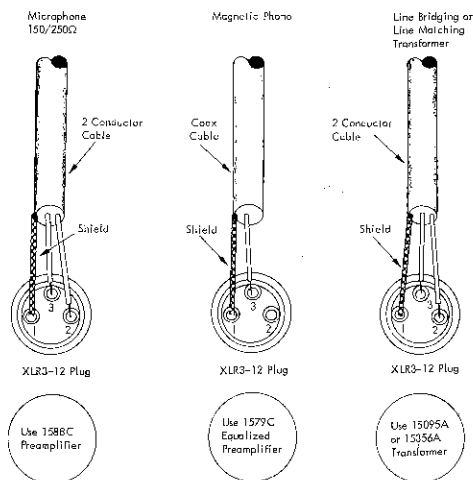
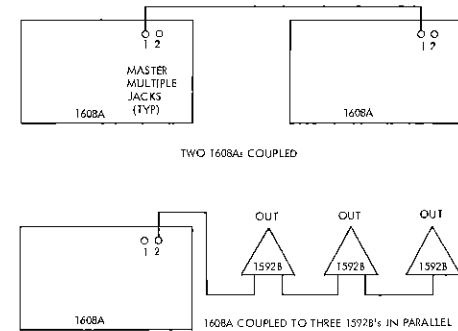
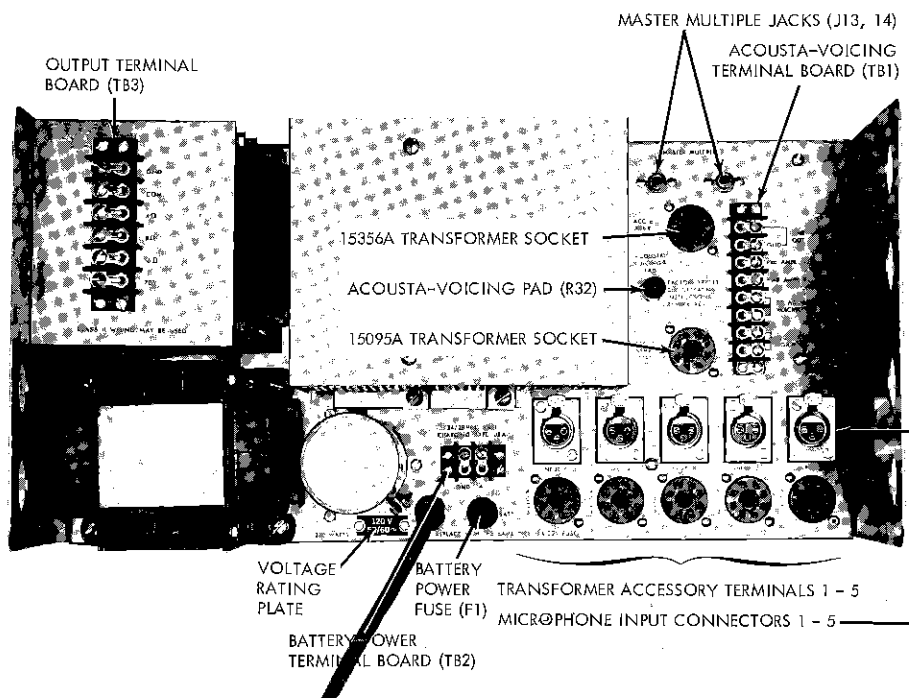
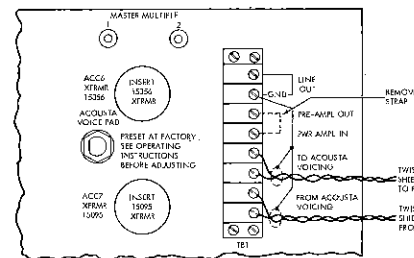

Figure 5. Input Cable Plug Wiring
Figure 6. Multiple Coupling of Amplifiers
Figure 3. Rear View of 1608A
Figure 7. Connecting Passive Acousta-Voicing Equalizers
ACOUSTA-VOICING Pad Control (R32)	Continuously variable potentiometer (see Figure 3). Factory adjusted. Setting should not be changed. Readjustment may be required with passive Acousta-Voicing equalizers. See SERVICE information for readjustment procedure.
Equipment supplied for domestic use is provided with the power transformer primary strapped for 120 volts (terminals 1 to 2 and 3 to 4 on TB4). The power input nameplate, adjacent to the power cord on the chassis, is mounted to show the appropriate side specifying the connections (see Figure 3). Verify that line voltage is in accordance with the voltage rating *before* connecting the 1608A to line power.
2. Locate terminal board TB4 beneath power transformer T1. (See Figure 5.)
4. Remove voltage-rating plate from chassis, reverse and reinstall to show 240V rating (see Figure 3).
If desired, the 1608A may be connected to an external 24/28 volt battery with minus (-) as ground. Terminals for the dc power connections are on TB2 (see Figures 3 and 13). If ac power fails, transfer to dc power is instantaneous, automatic and silent. A built-in charging circuit supplies a 100 mA trickle current to maintain battery charge during ac operation. The battery power supply is not operated by the POWER switch on the front panel. If switching of battery power is desired, an external relay or switch should be provided by the user.
Inputs to the mixer channels are connected on the chassis at connectors J1 through J5 (see Figures 3 and 13) with cables terminating in XLR3-12-type plugs. Appropriate internal wiring of the plugs is shown in Figure 5. Input for any channel may be microphone, magnetic phono or line. The corresponding plug-in input accessory must be used for each channel.
High-level devices, such as recorders and tape machines, may be connected to terminals 1 (LINE OUT) and 2 (GND) of TB1 on the chassis (see Figures 3 and 13.) This output may be connected to a telephone transmission line when suitable line-matching transformers are used on the line. Maximum line output is +18 dBm across a 600-ohm impedance.
Two MASTER MULTIPLE jacks, independent of all gain controls, enable combining two or more 1608A amplifiers, or up to three additional 1592B amplifiers, in a single sound system. All inputs of such a system appear at the output of each amplifier; the output of each amplifier is then adjustable for a separate application. Typical combinations of amplifiers are shown in Figure 6. A single coaxial cable with phono plugs connects each amplifier. Either MASTER MULTIPLE jack (see Figure 3) may be used for interconnection.
The ALTEC plug-in input accessory modules are plugged into sockets ACC1 through ACC7 (J6 through J12) on the chassis (see Figures 3 and 13). Module selection is determined by channel application. Use care when installing the modules to prevent damage.
When Acousta-Voicing with passive equalizers, the equalizer connections should be made in accordance with Figure 7, using two-conductor shielded and twisted cable, such as Belden 8450 or 8451 cable. Connect shield to GND of TB1 and opposite end of shield to chassis ground of equalizer. An ALTEC 15356A Line Matching Transformer must be installed in socket ACC6 (J11) and an ALTEC 15095A Bridging Transformer must be installed in socket ACC7 (J12). These transformers provide proper impedance matching plus 11 dB additional gain to the system. This gain usually compensates for losses in the passive equalizing filters. If more gain is required, remove the cap from the Acousta-Voicing pad (see Figure 3) and rotate the control clockwise (cw) only enough to compensate for gain lost in the passive Acousta-Voicing equalizers. If it subsequently becomes necessary to readjust the pad, refer to SERVICE instructions.
1. Connect a 16-ohm dummy load across terminals 2 and 5 of TB3 (16 ohm output). (See Figure 3.)
The Acousta-Voicing pad, located on chassis (see Figure 3), is for adjusting gain correction when using passive Acousta-Voicing equalizers. If the pad requires readjustment, use the following procedure.
3. Place an 8-ohm dummy load across terminals 3 and 5 of TB3 (8-ohm speaker output). (See Figure 3.)
2. Connect a 16-ohm dummy load across terminals 2 and 5 of TB3 (16-ohm speaker output). (See Figure 3.)